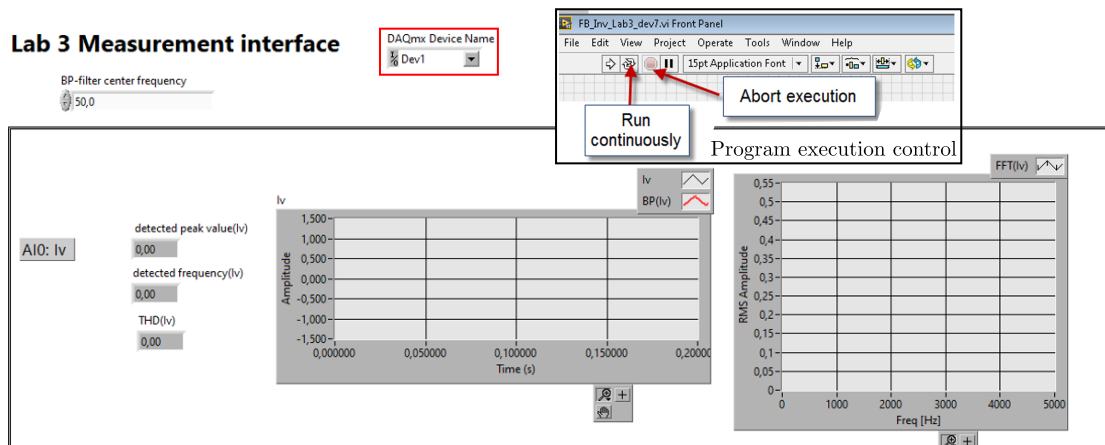

Figure 3.7: LABVIEW measurement interface for ELVIS.
5. A special LABVIEW software interface is used for the Lab3 measurement with ELVIS. Copy the file: FB_ctrl_Adue_meas.vi to your local folder if not already there. Load the LABVIEW software by double-clicking the file. When the file is loaded the measurement interface will appear as shown in Figure 3.7.
Before running the LABVIEW interface, the ELVIS device number must be set with the specific setup on your Lab computer. This is done by turning on the main power to the ELVIS board using the switch on the top-right corner of the board, and selecting the ELVIS device from the drop-down menu "DAQmx Device Name" on the LabVIEW front panel as shown in Figure 3.7. The program is started by clicking the circular arrow symbol (Run Continuously) in the Program execution control in Figure 3.7.